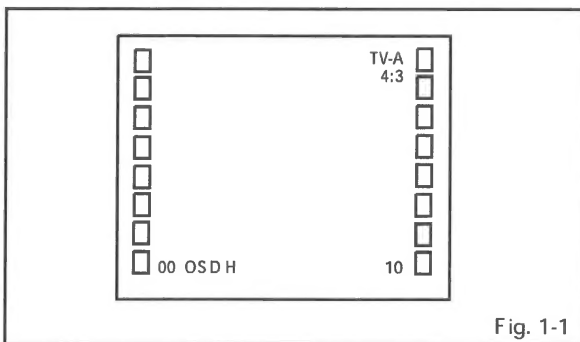

Fig. 1-1
1. In the condition of **NO** indication on the screen, press the VOL. DOWN button on the set and the Channel button (9) on the remote control for more than 2 seconds to appear the adjustment mode on the screen as shown in Fig. 1-1 .
4. Activate the adjustment mode display of Fig. 1-1 and press the channel button (02) on the remote control to select "CUT OFF".
4. Activate the adjustment mode display of Fig. 1-1 and press the channel button (11) on the remote control to select "R.BIAS".
4. Activate the adjustment mode display of Fig. 1-1 and press the channel button (38) on the remote control to select "TINT".
12. Activate the adjustment mode display of Fig. 1-1 and press the channel button (38) on the remote control to select "TINT".
4. Activate the adjustment mode display of Fig. 1-1 and press the channel button (35) on the remote control to select "COL.CENT".
15. Activate the adjustment mode display of Fig. 1-1 and press the channel button (35) on the remote control to select "COL.CENT".